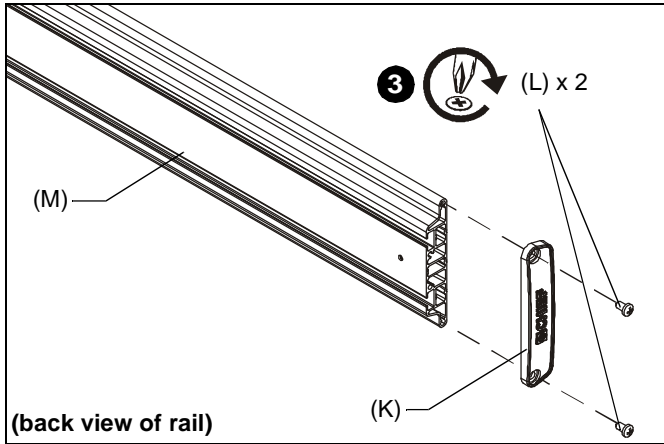

Figure 6
3. Attach one remaining end cap (K) with two 1/4-20 x 1/2" Phillips head screws (L) to end of mounting rail (M). (See Figure 6)